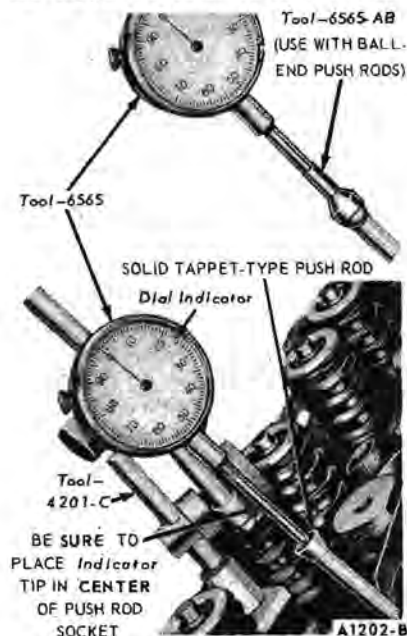

FIG. 2—Camshaft Lobe Lift—170 and 200 Six
2. On a 170 or 200 six or a 390 V-8, remove the valve rocker arm shaft assemblies and install a solid tappet-type push rod in the push rod bore of the camshaft lobe to be checked or use the adapter for ball-end push rods shown in Fig. 2.
3. Make sure the push rod is in the valve lifter socket. Install a dial indicator in such a manner as to have the ball socket adapter of the indicator on the end of the push rod and in the same plane as the push rod movement (Fig. 2 or 3).
On a socket-type push rod, position the actuating point of the indicator in the push rod socket and in the same plane as the push rod movement (Fig. 2).